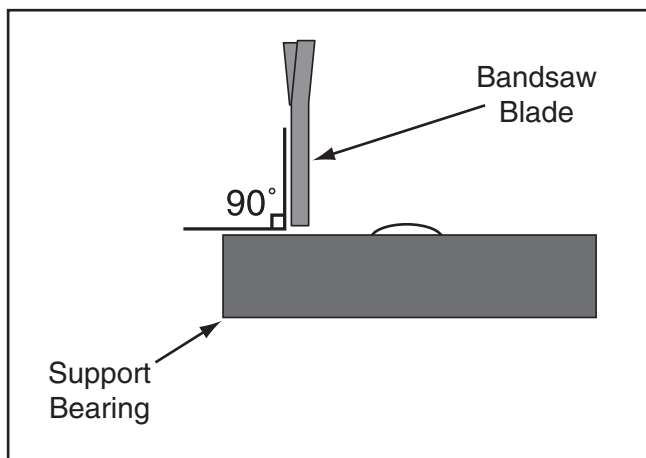

Figure 19. Blade should be perpendicular (90°) to the face of the support bearing.
5. Look at the face of the support bearing and rotate the blade guide assembly side-to-side, until the blade is perpendicular with the face of the support bearing as illustrated in **Figure 19**.